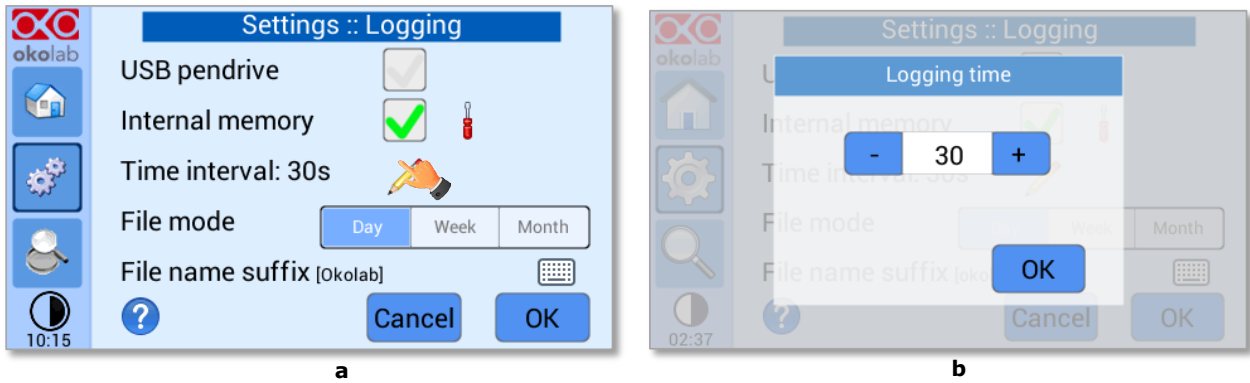
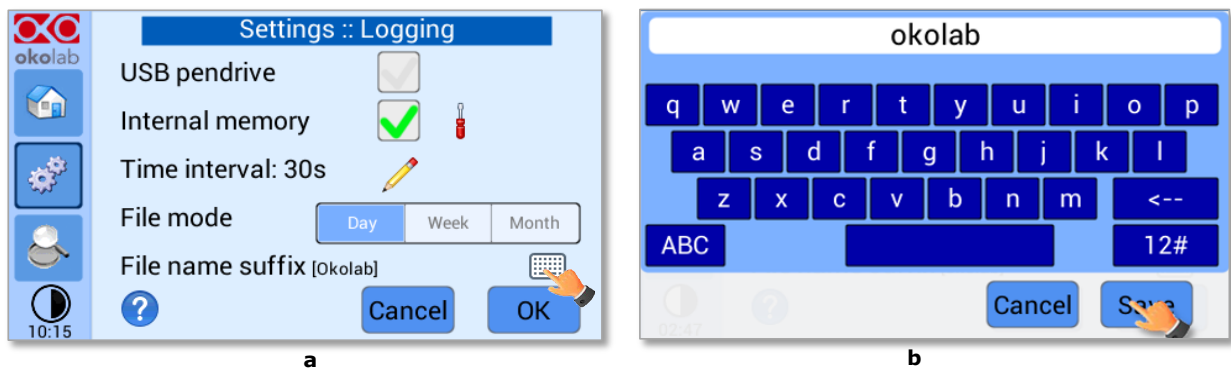
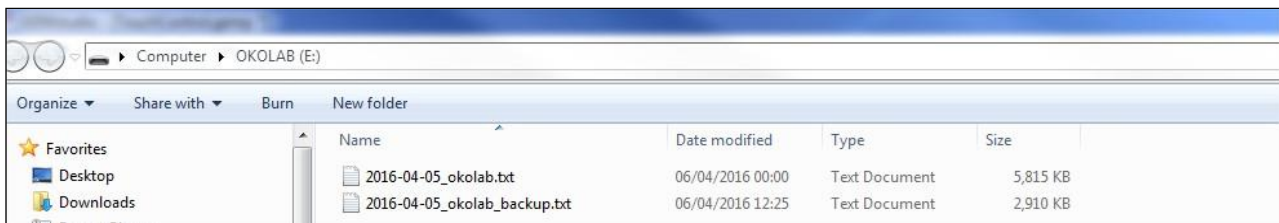

Figure 70. How to set the logging time (a – b).
Figure 71. Data Logging. How to define the suffix for the downloaded files (a – b).
Figure 72. Downloaded files on the pen drive.
- Press on the icon  to insert the *Time Interval* i.e. the frequency with which you want to record a data point, as shown in Figure 70. In this example a data point is logged every 30 seconds, you can change *Time Interval* in the range 1-60 seconds.
- Choose how you want to organize the data when downloaded, by pressing on Day, Week or Month, see Figure 70 a.
- Write the file name suffix to be reported in the downloaded files by pressing on the keyboard icon , see Figure 71 a.
- Press Save, see Figure 71 b.
Tip ► With the selections as in Figure 70 and in Figure 71, the data will be downloaded on the USB drive as shown in Figure 72.